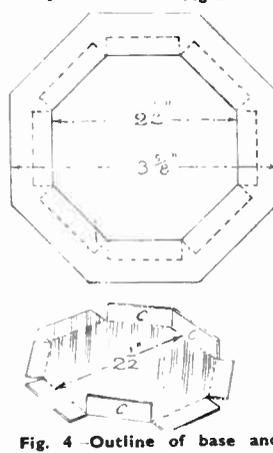

Fig. 4 - Outline of base and tray
The upper layer of the base, as (B) in Fig. 3, is set out in a similar manner to (A), being the main piece below. The outline of piece (B) is given in Fig. 4 in the solid lines, and this again is set out on $\frac{1}{4}$ in. wood and cut out. Glue the two pieces together and clamp up.
Being of wood, some protection must be given against the hot ash, and to this end a neat little metal tray is formed from brass or copper or even tin which could be painted or japanned over. The tray consists of an octagonal piece of metal set out 3ins. square. It has an inner shaped piece for sinking in the depth of the wood overlay, marked out $2\frac{1}{2}$ ins., as seen in the lower diagram in Fig. 4.
The metal can be cut with a pair of tinman's snips or an old pair of scissors. Snip out the V-shaped pieces of the metal so that when each of the eight sides is angled up and soldered the appearance is as (C) in Fig. 4, three only of the upturned sides being shown here, the others lying flat and made ready for